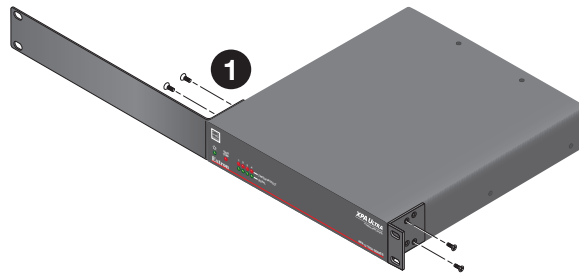

Figure 3. Install XPA Ultra Rack Ears
2. Attach the included rack ears to the sides of the amplifier with the four provided #6 machine screws (see figure 3, ①).